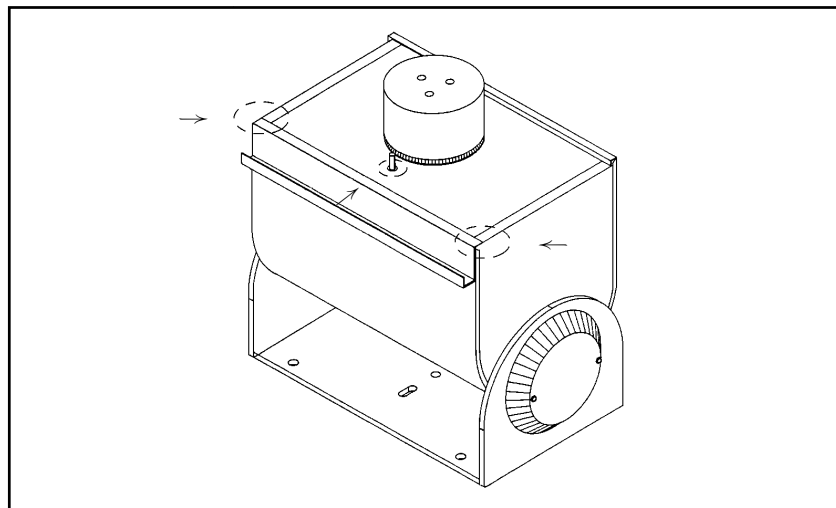

Figure 1 . Sealant Locations
**NOTE:** When mounting the pan/tilt outdoors in the inverted position (base up), RTV silicone sealant, such as Dow Corning Type 732 or equivalent, should be applied to the areas indicated in Figure 1.
4. Reinstall the cover. If the pan/tilt is installed outdoors in an inverted position, apply RTV silicone sealant as shown in Figure 1.